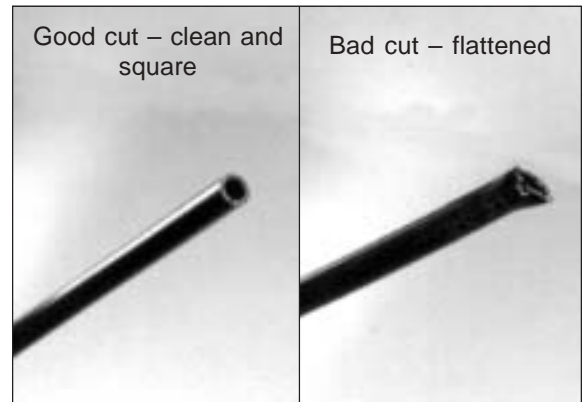

Figure 6
*CAUTION: When cutting or trimming the air line, use a hose cutter (Air Lift P/N 10530), a razor blade or a sharp knife. A clean, square cut will ensure against leaks. (Figure 6). Do not use wire cutters or scissors to cut the air line. These tools may flatten or crimp the air line, causing it to leak around the O-ring seal inside the elbow fitting (Figure 6).*